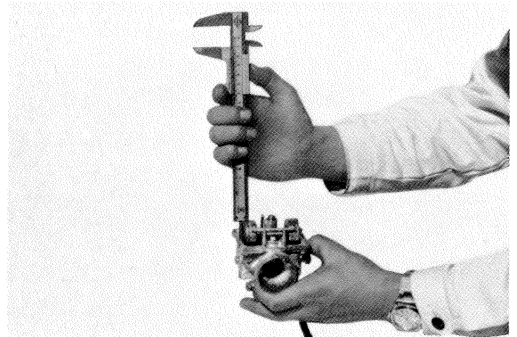

Fig.7-4-1 Checking fuel level
3. As shown in Fig. 7-4-1, measure the height from the float chamber attaching surface to the float top.